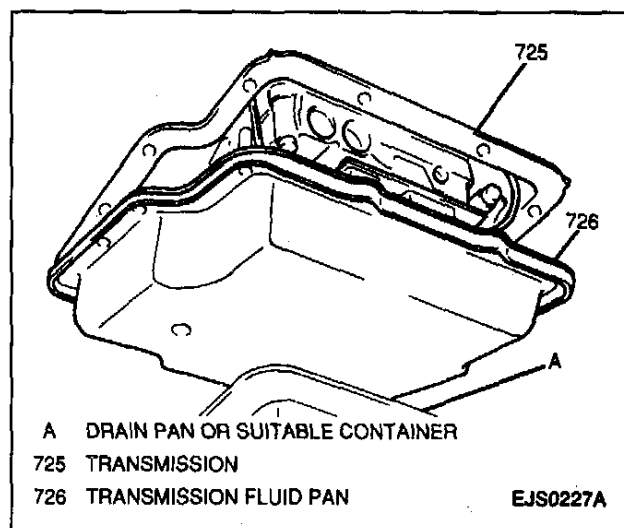

Figure 29—Removing Transmission Fluid Pan (3L30, 3-Speed)
5. Nine transmission fluid pan bolts around the forward perimeter of the transmission fluid pan and loosen the three transmission fluid pan bolts in the rear of the transmission fluid pan allowing the transmission fluid pan to partially drain (Figure 29).
2. Transmission fluid pan and fluid pan magnet with solvent and air dry (Figure 29).